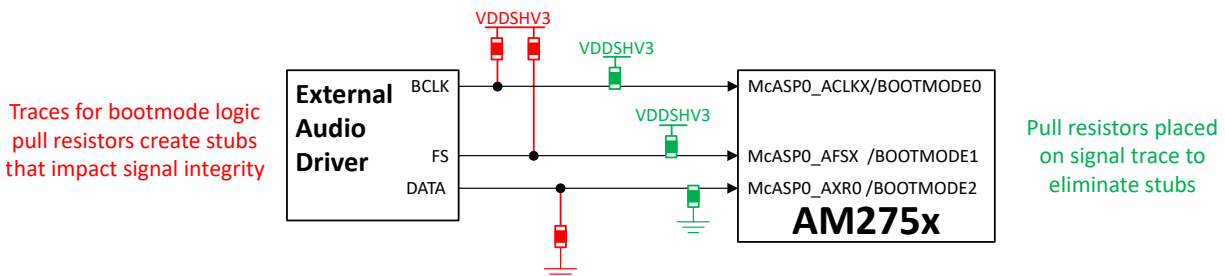

Figure 4-1. McASP Signal Trace Stubs
- The external pull resistors should be placed in line with the signal trace such that they do not introduce a stub. Figure 4-1 shows examples of pull resistors with and without trace stubs, where the green implementation should be replicated for designs.